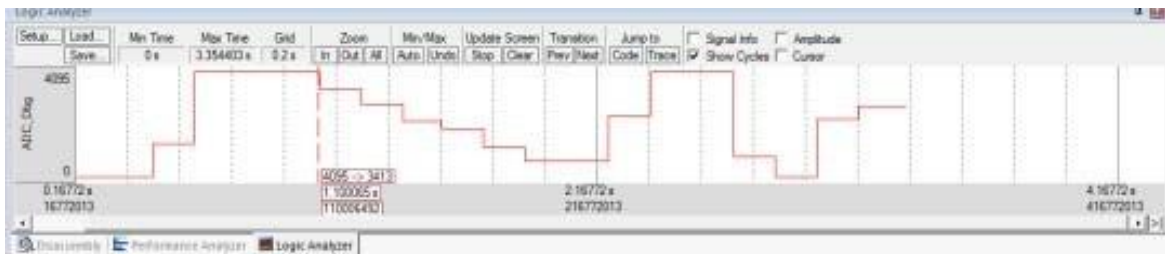

Figure 21: Simulating the Port and A/D Conversion using Logic Analyzer
- Keep transitioning to different values using this simulated potentiometer method. Your simulation should then resemble and close to Figure 21.